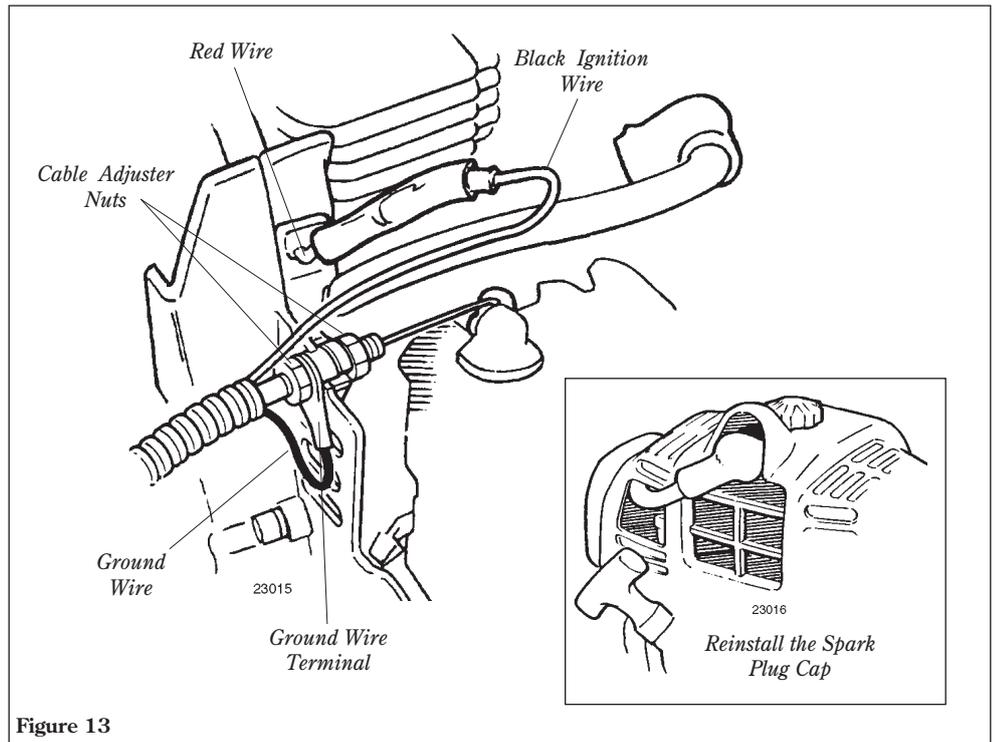

Figure 13
1. Insert the throttle-cable housing into the notch on the fan cover, and clamp the ground wire terminal between the fan cover and the outer cable adjuster nut. See Figure 13.